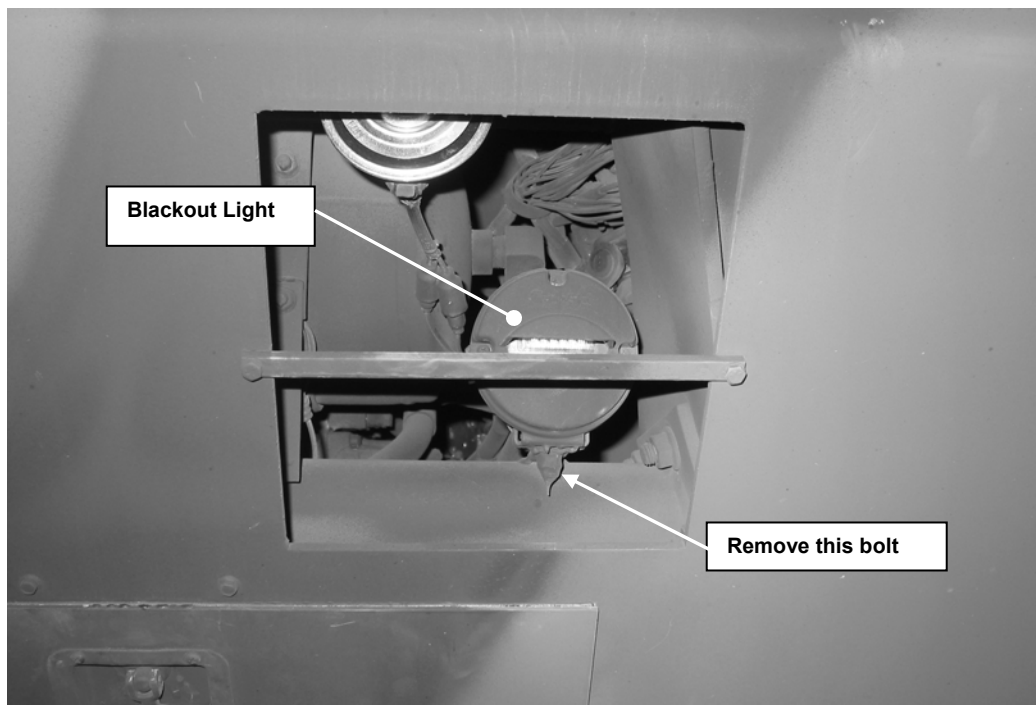

Figure 7. Blackout Light.
- g) Remove the Blackout Light attached to a bracket located in front of the vehicle (see Figure 7). This is done by removing a bolt located under the light. Disconnect the connector on the electrical wire that leads to the light. The connector is located approximately 8 in. from the Blackout Light. Do not disconnect the wire where the wire enters the light's housing.